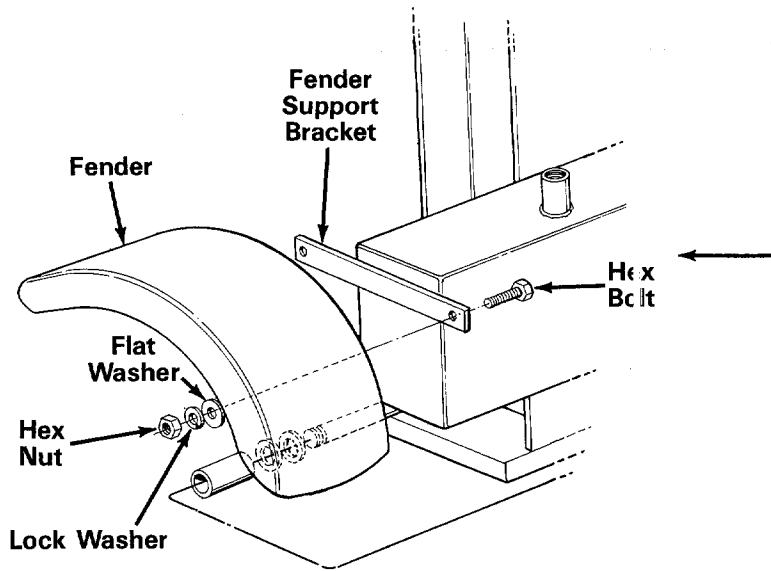

FIGURE 3
2. Place the fenders in position against the fender support brackets. Insert hex bolts through holes in support brackets and fenders. Secure with flat washers, lock washers and hex nuts. See figure 3.